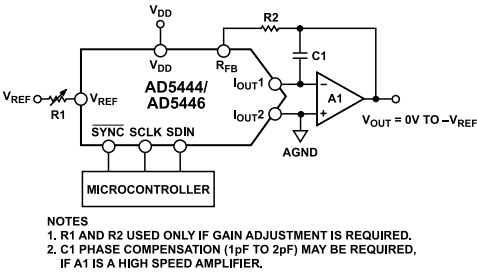
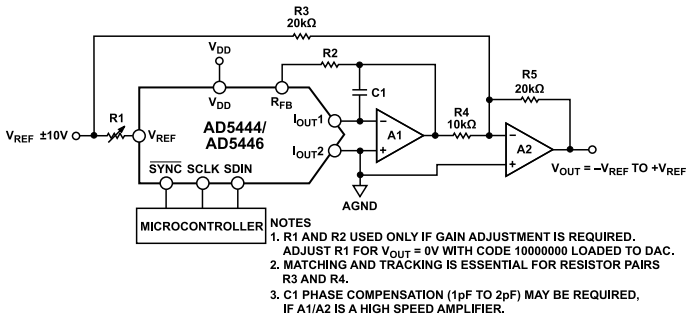

Figure 38. Unipolar Operation
Figure 39. Bipolar Operation (4-Quadrant Multiplication)
Using a single op amp, the AD5444/AD5446 can easily be configured to provide 2-quadrant multiplying operation or a unipolar output voltage swing, as shown in Figure 38.
This DAC is designed to operate with either negative or positive reference voltages. The  $V_{DD}$  power pin is used by the internal digital logic only to drive the on and off states of the DAC switches. The DAC is also designed to accommodate ac reference input signals in the range of –10 V to +10 V. With a fixed +10 V reference, the circuit shown in Figure 38 provides a unipolar 0 V to –10 V output voltage swing. When  $V_{IN}$  is an ac signal, the circuit performs 2-quadrant multiplication.
In some applications, it may be necessary to generate a full 4-quadrant multiplying operation, or a bipolar output swing. This can easily be accomplished by using another external amplifier and some external resistors, as shown in Figure 39. In this circuit, the second amplifier (A2) provides a gain of 2. Biasing the external amplifier with an offset from the reference voltage results in a full 4-quadrant multiplying operation. The transfer function of this circuit shows that both negative and positive output voltages are created as the input data (D) is incremented from code zero ( $V_{OUT} = -V_{REF}$ ) to midscale ( $V_{OUT} = 0\text{ V}$ ) to full scale ( $V_{OUT} = +V_{REF}$ ).
An optional compensation capacitor (C1) can be added in parallel with  $R_{FB}$  for stability, as shown in Figure 38 and Figure 39. Too small a value for C1 can produce ringing at the output, while too large a value can adversely affect the settling time. C1 should be found empirically, but 1 pF to 2 pF is generally adequate for the compensation.